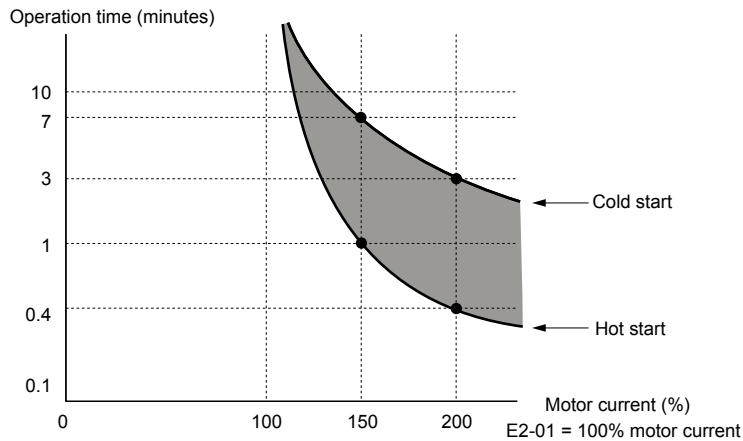

Figure 5.42 Motor Protection Operation Time
**Figure 5.42** illustrates an example of the electrothermal protection operation time using a general-purpose motor operating at the value of E1-06, Motor Base Speed, with L1-02 set to one minute.